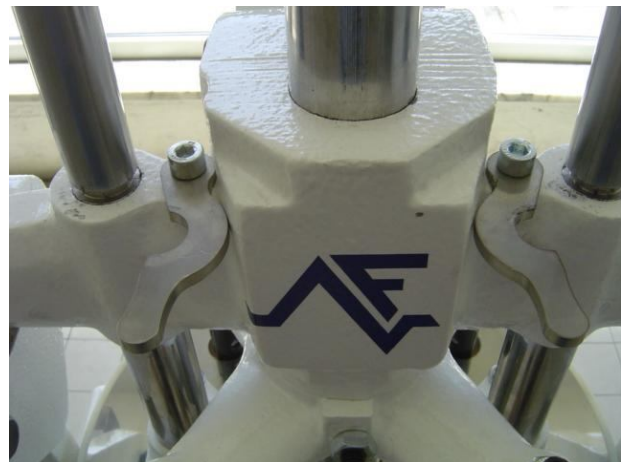

Figure 7
- Unlock the blades so it could go down (figure7).